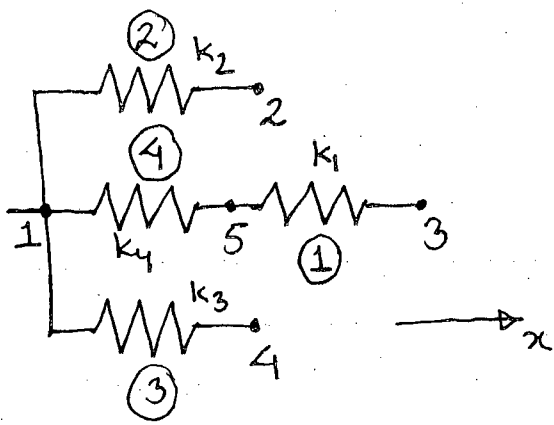

Fig. 1
1. (a) What are the steps involved in Finite Element analysis? (4)
- (b) What is the definition of strain for beam elements? Derive the strain-displacement matrix of beam elements. (12)
- (c) What constitutive law will you use for an axially loaded pile as shown in Fig. 1. Will there be any normal stress in the tangential direction? (7 1/3)
1. (a) Is FEM an exact method of analysis? Explain why? (5)
(b) For the spring system shown in Fig. 1, find the global stiffness matrix. (12)
1. (a) Summarize the basic procedural steps that are followed in analyzing a structure using finite element method. (6)
- (b) When there are several FEM packages are available, is there any need to study this method? Discuss. (5)
- (c) State two problems where classical solutions will yield poorer results than FEM solutions. (4)
2. (a) Write down the basic assumptions of linear static analysis. (6)
- (b) Find the stresses in the two bar assembly as shown in Figure 1. The bar is loaded with force P , and constrained at two ends. Use 1-D bar elements. (12)
- (c) If the two bars in Figure 1 are tapered in cross-sectional area, how will you model the problem in FEM? (5 1/3)
- (c) Explain the terms: (9)